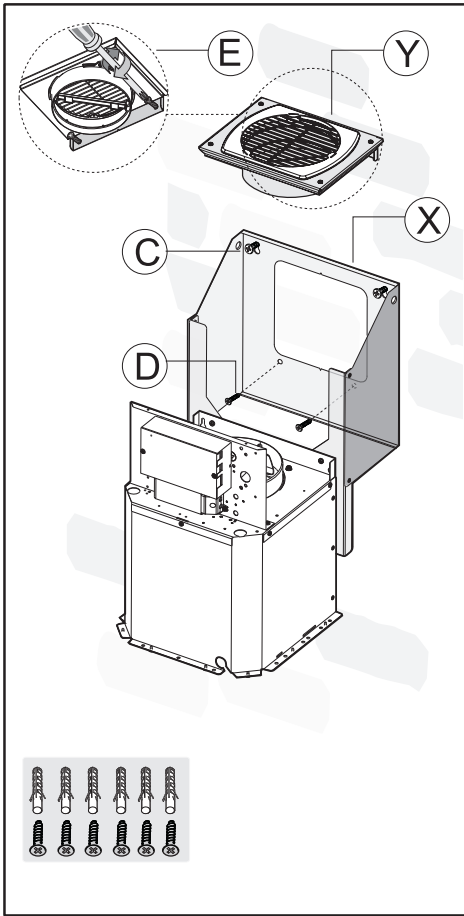

Fig.6
- Position the fixing template on the wall (taking the minimum distance from the hob into account) **Fig. 6**.
- Fix the 2 screws C and the screw anchors (**Fig. 6**), without tightening them completely.
- After the necessary adjustments have been made, fix the motor assembly X in place using the 2 screws D (**Fig. 6**).
- Fix the air outlet bracket Y to the wall using the 2 screws E (**Fig. 6**).
- Position the motor assembly X against the wall, make sure it is in a horizontal position and tighten the screws C (**Fig. 6**).